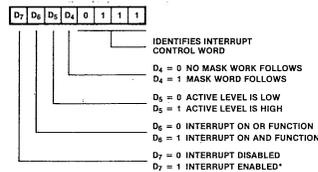

Figure 9. Interrupt Control Word
**Interrupt Control Word.** In Mode 3, handshake is not used. Interrupts are generated as a logic function of the input signal levels. The interrupt control word sets the logic conditions and the logic levels required for generating an interrupt. Two logic conditions or functions are available: AND (if all input bits change to the active level, an interrupt is triggered), and OR (if any one of the input bits changes to the active level, an interrupt is triggered). Bit D5 sets the logic function, as shown in Figure 9. The active level of the input bits can be set either High or Low. The active level is controlled by Bit D5.